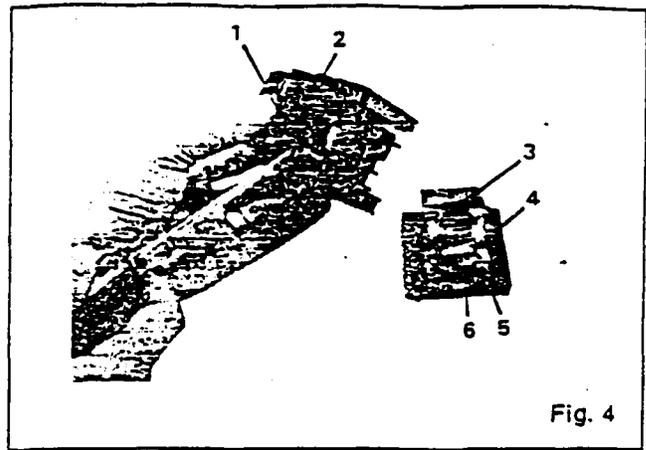

Fig. 4
See Fig. 4. Loosen the two mounting screws (1). Remove the top half of the contactor base (2) together with the arc chute. Remove the coil (3) by slightly twisting it. Install the new coil by locating the cone shaped bosses on the springs and pressing into lower contactor base (4). Coil will snap into position. Place coil leads in slots and insert coil terminals (5) into the recesses (6). Be sure the wire clamps are oriented properly. Replace the top half of the contactor and tighten the two mounting screws.